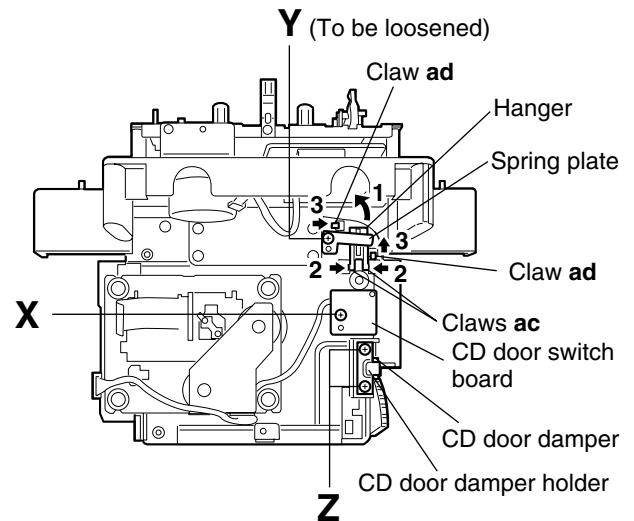

Fig.27
■ Removing the CD door switch board (See Fig. 27.)
■ Removing the hanger and CD door button (See Fig. 27.)
■ Removing the CD door damper (See Fig. 27.)